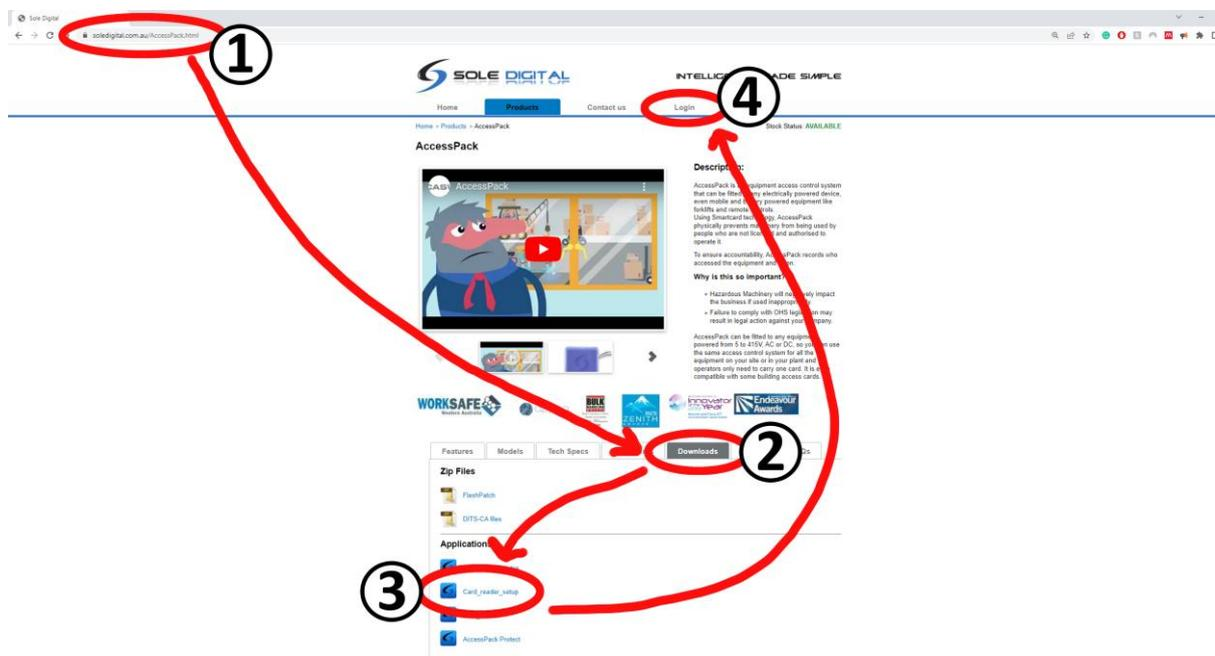

Figure 7: How to Download the Card Reader Software
<https://www.soledigital.com.au/AccessPack.html>, via the [Login] tab on the page. The portal login can be found near the top of the Sole Digital website as indicated by Step (4) in Figure 7.